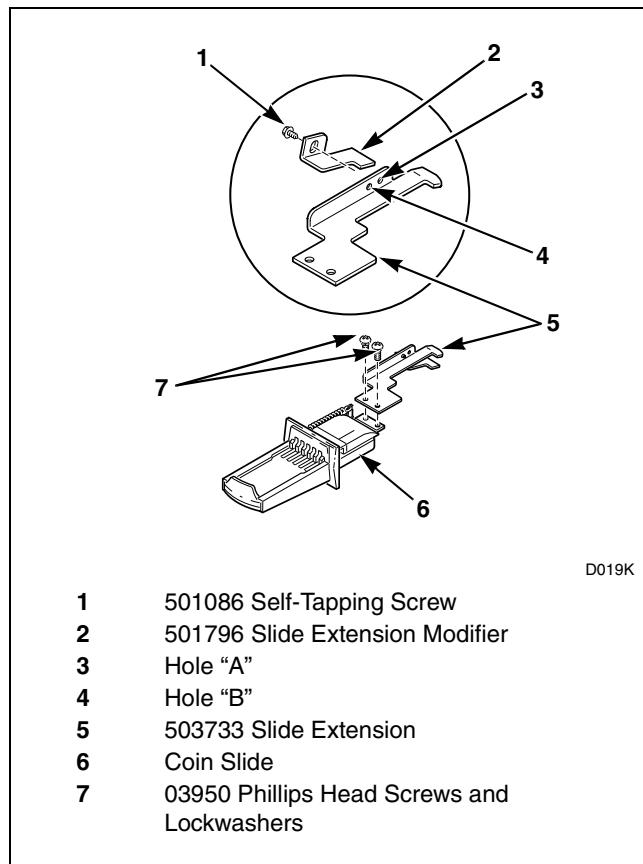

Figure 2
1. Assemble coin slide extension, No. 503733, to top side of coin slide using two Phillips head screws and lockwashers, No. 03950. Tighten firmly. Refer to *Figure 2*.
- **ESD Coin Slide** – Mount slide extension modifier, No. 501796, to the underside of slide extension, No. 503733. Align the hole in the slide extension modifier with hole “A” in the slide extension and install self-tapping screw, No. 501086. Tighten firmly. Refer to *Figure 2*.
- **GREENWALD Comet Slide, GREENWALD Tokette Slide or MONARCH Coin Slide** – Mount slide extension modifier, No. 501796, to the underside of slide extension, No. 503733. Align the hole in the slide extension modifier with hole “B” in the slide extension and install self-tapping screw, No. 501086. Tighten firmly. Refer to *Figure 2*.